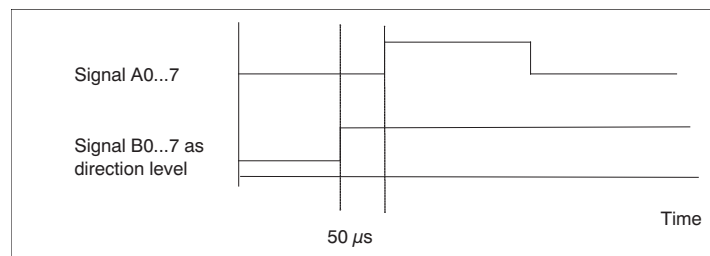

Figure 9-1 Time Span Between Direction Level and Count Signal
For 24-V pulse encoders with direction level, a minimum time span of 50 μ s must lie between direction signal (B) and count signal (A) (see Figure 9-1).